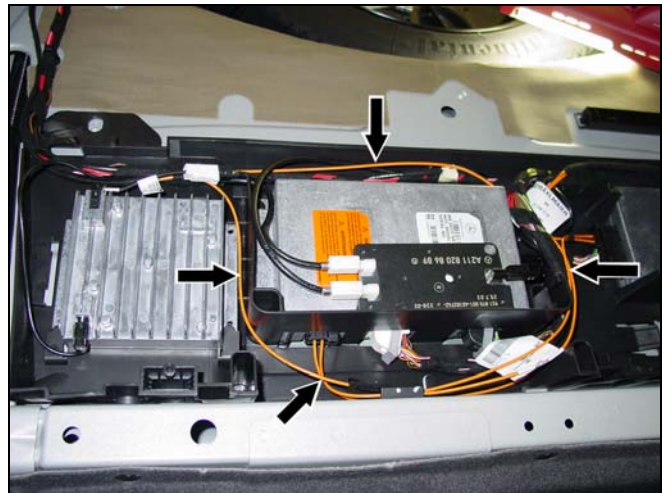

Figure 13
2. Position the optical fibers according to (Figure 13) and secure them with wire ties.